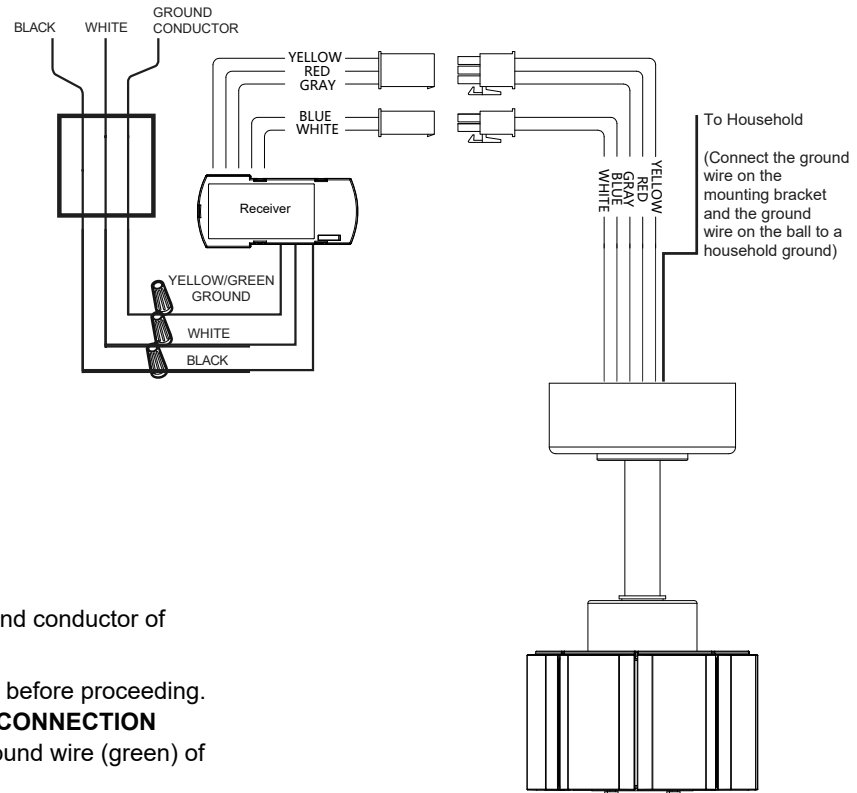

Fig. 11
**Step 1.** The ground wire (green) of the ceiling mounting bracket and the ground wire (green) of the ball connects to the ground conductor of the ceiling outlet box (Fig. 11).